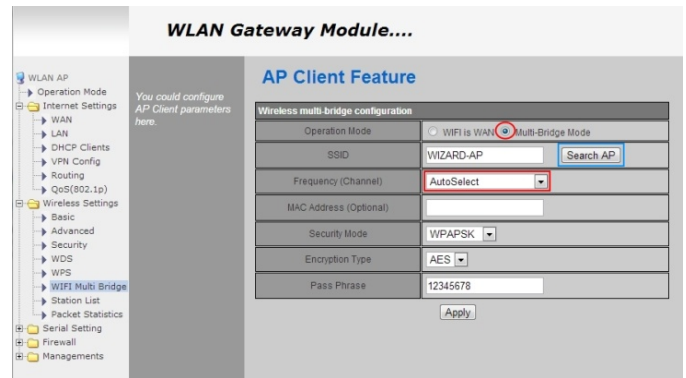

Figure 7.3 – AP-Client mode setting
- 6) In **Wireless settings** -> **WiFi Multi Bridge** menu tick off **Multi-Bridge Mode** and in the channel stage drop down списке list set **AutoSelect** (View figure 7.3). Then push **Search AP** (access point search).